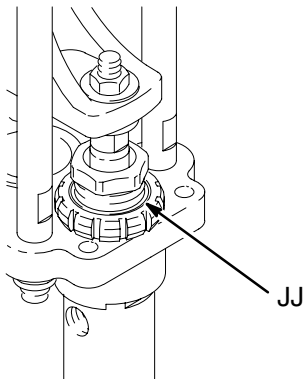

Fig. 15
Keep each displacement pump throat packing nut (JJ) filled with Graco ISO Pump Oil to help prevent fluid from drying on the displacement rod and damaging the pump packings. See Fig. 15.